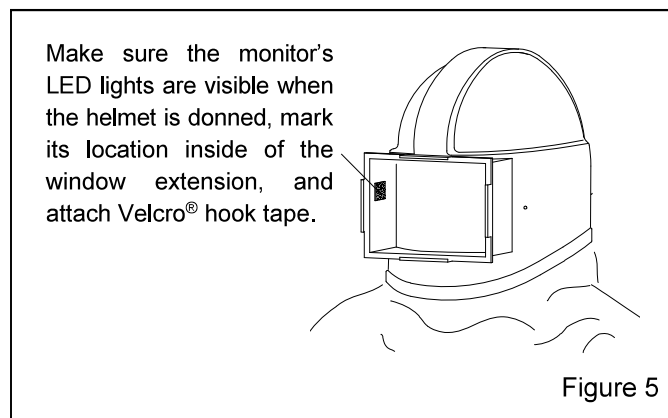

Figure 5
2.1.2.3 Don (put on) the helmet and temporarily place the monitor on one of the side walls of the window extension, as shown in Figure 5. Make sure the monitor's LED lights are visible.